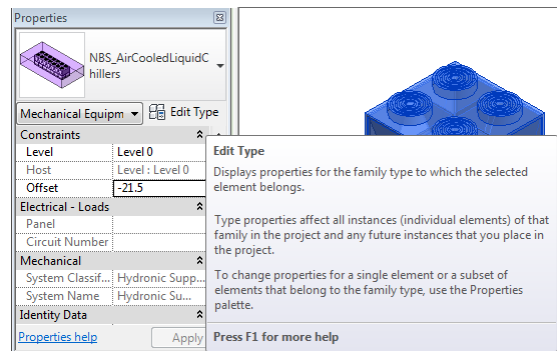

Fig. 9
- Type Parameters are applied to all instances of a Family:Type BIM object within a project, these can be accessed by clicking on the BIM object, the clicking on the Edit Type button in the Properties panel (Fig. 9).